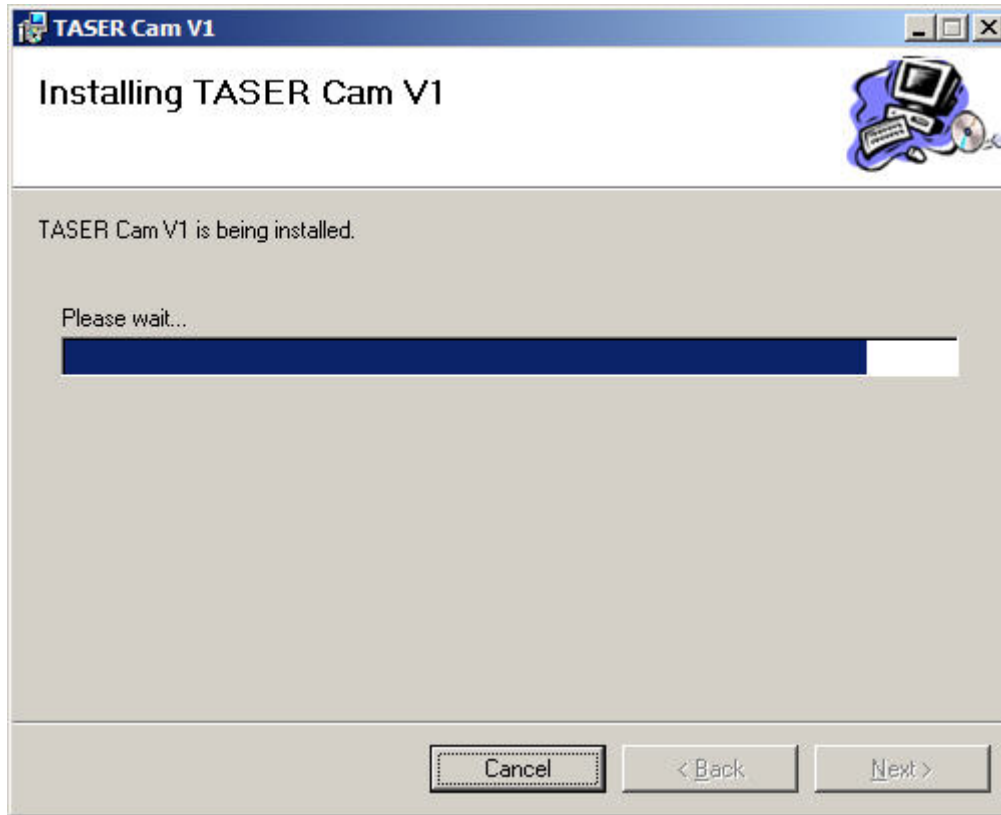

Figure 4
8. The installation status displays (Figure 4).